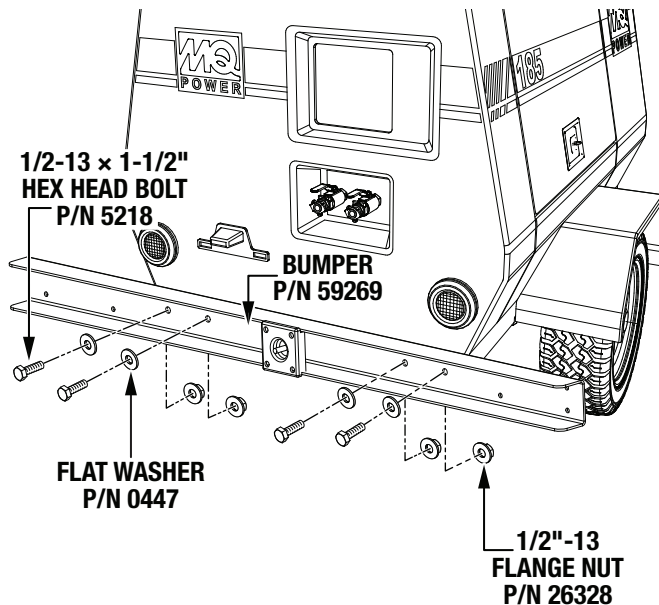

Figure 6. Bumper Installation
3. Secure the new bumper (P/N 59269) to the chassis with the four 1/2-13 x 1-1/2" hex head bolts (P/N 5218), flat washers (P/N 0447), and 1/2"-13 flange nuts (P/N 26328). See Figure 6.